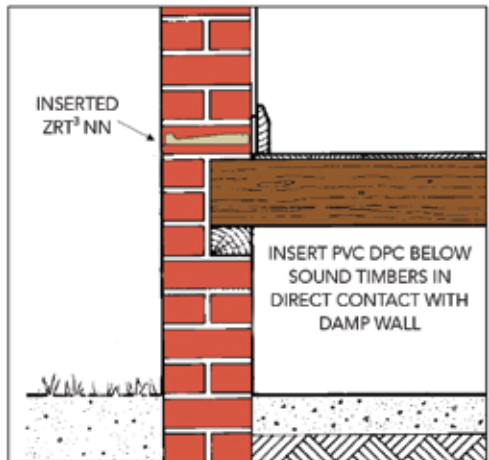

Figure 4. Insert pvc dpc below wallplate
- 10.4 If the timbers are sound, the existing floor maybe retained provided the damp-proof course is formed below the timber joists and /or wallplate. (see figure 4)